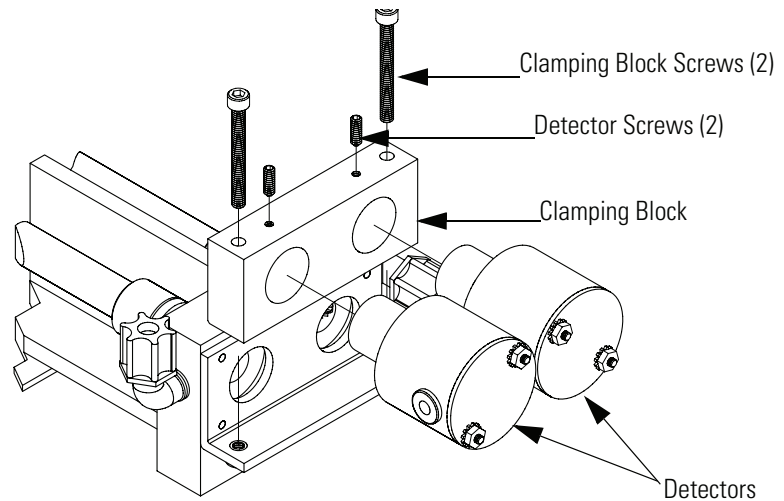

Figure 6-12. Replacing the Detectors
3. Loosen the two screws securing the detector clamping block to the optical bench and remove the clamping block and detectors (Figure 6-12).